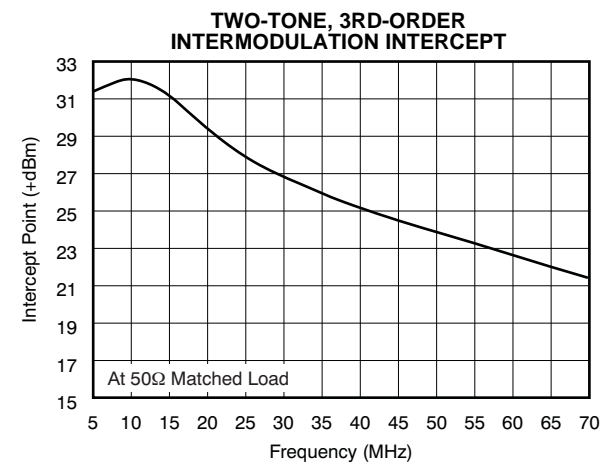

Figure 67.
Because the VCA822 is most linear in the midrange, the median of the adjustable pole should be set at $V_G = 0V$ (see Figure 26, Figure 46, Figure 67, and Equation 6). Selecting $R_1 = R_2 = 332\Omega$, and targeting a median frequency of 10MHz, the capacitance (C) is 24pF. Because the OPA690 was selected for the circuit of Figure 86, and in order to limit peaking in the OPA690 frequency response, a capacitor equal to C was added on the inverting mode to ground. This architecture has the effect of setting the high-frequency noise gain of the OPA690 to $+2V/V$, ensuring stability and providing flat frequency response.